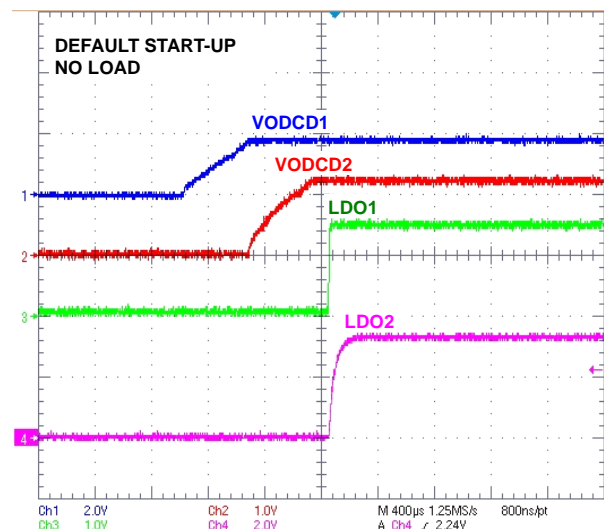

FIGURE 1. START-UP SEQUENCE
7. Monitor output voltages start-up sequence in default on the scope. The waveforms will look similar to that shown in Figure 1.